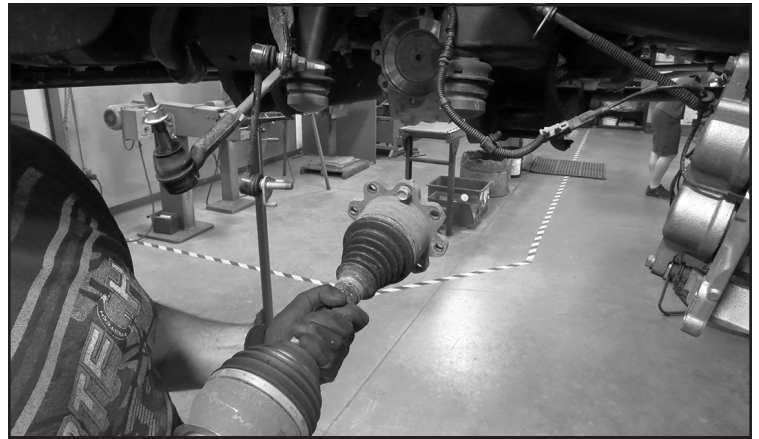

FIGURE 14 - STEP 12
12. Disconnect CV axles from differential housing and remove axle assembly. Save hardware. **SEE FIGURE 14**